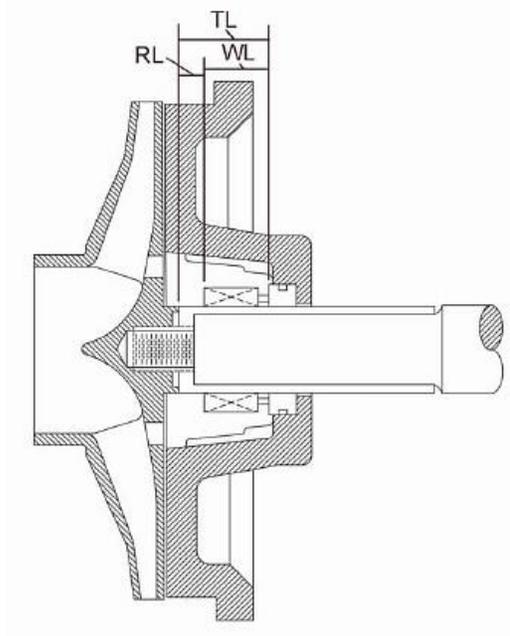

Figure E-1: FMI Seal Chamber
4. Refer to Figure E-1. Measure distance TL from the seal face on the stationary seat to the end of the hook sleeve.